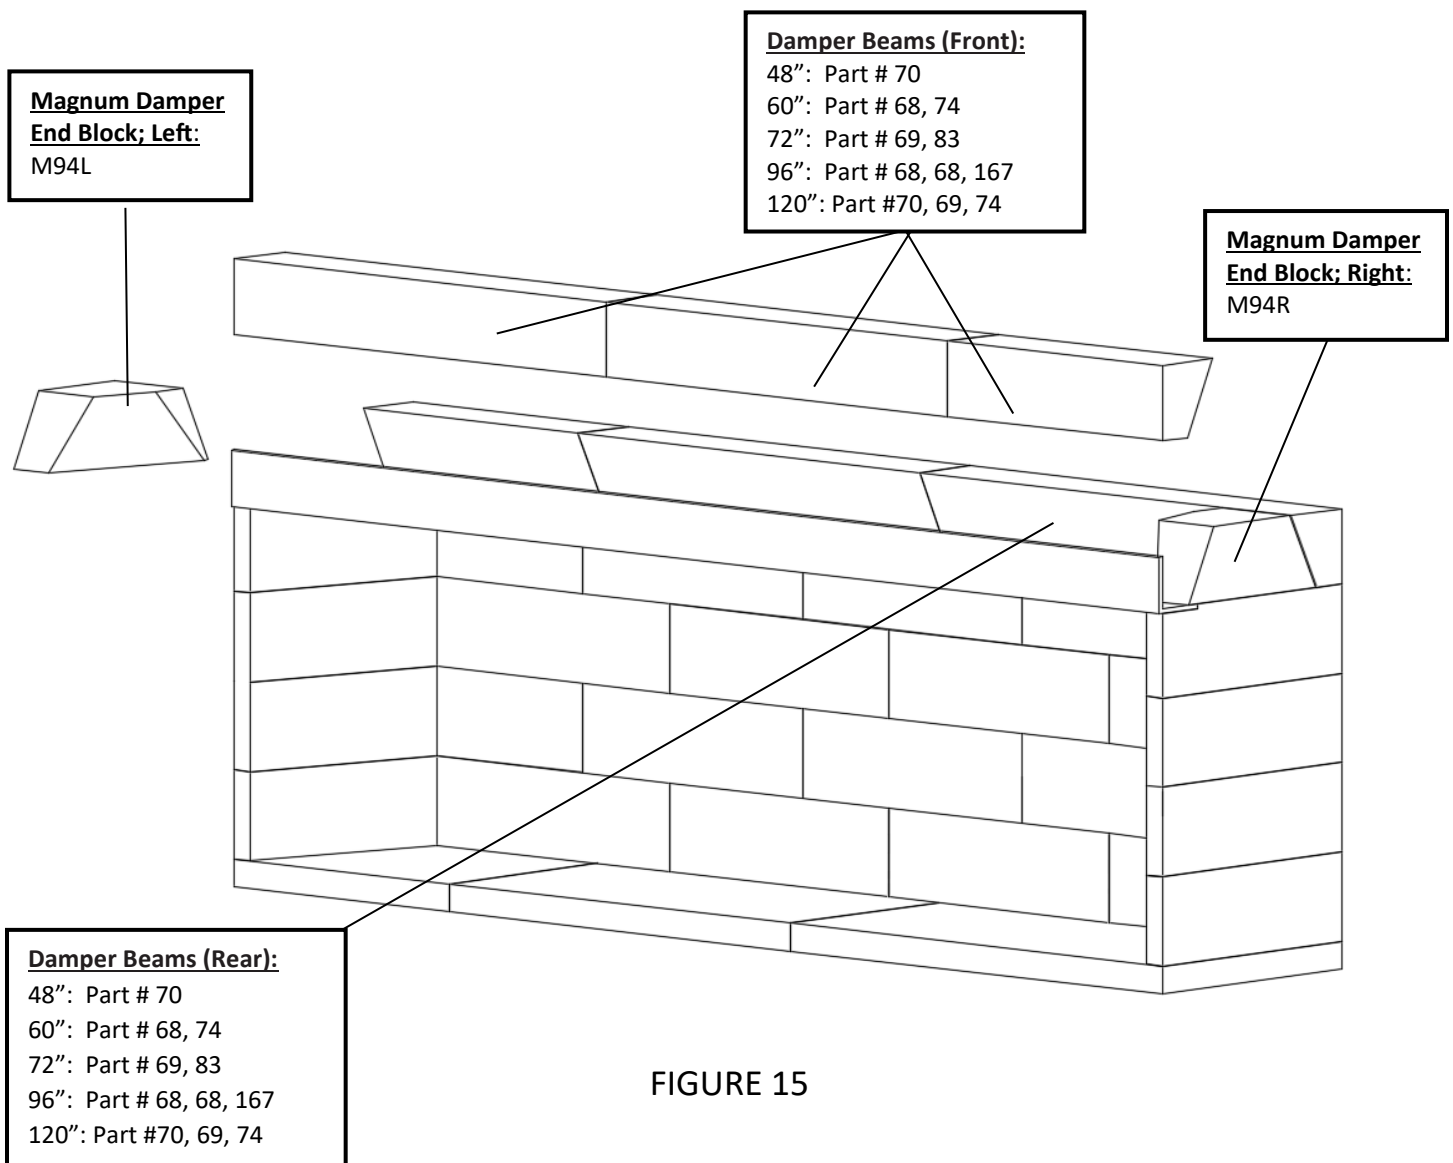

FIGURE 15
The damper beam assembly consists of long lintel pieces and two (2) short damper end blocks. The lintels will be equal to the width of the fireplace model that they serve. These components both sit on their narrow base so that their beveled face points down and into the firebox interior (**Figure 15**).
The damper end blocks are designed to sit on the firebox side wall between the front lintel and the back lintel. Each of the damper end blocks are designed for a specific side of the unit. When properly set, the vertical face of each damper end block will be flush with the outside face of the firebox side wall. (**Figure 15**).